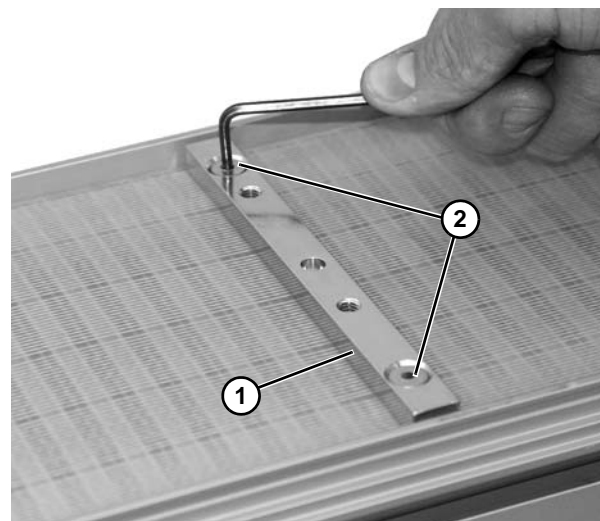

Figure 12
3. Install belt fixture (Figure 12, item 1).
4. Attach with M5 flat head screws (Figure 12, item 2). Tighten to 35 in-lb (4 Nm).